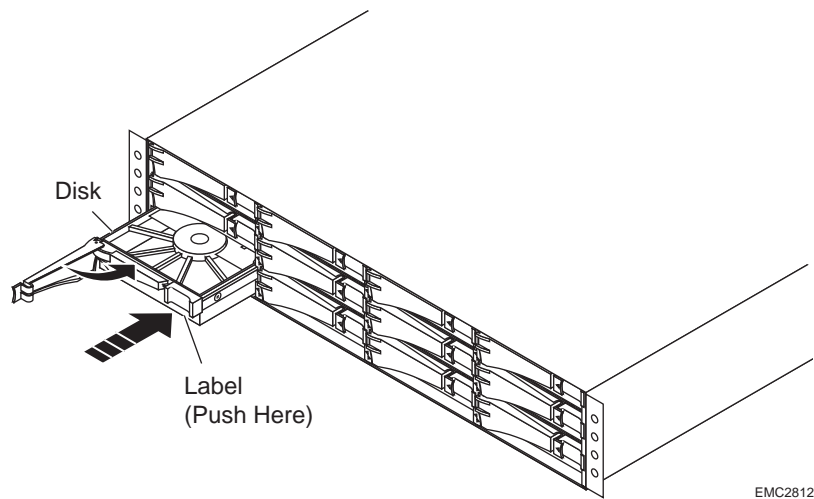

FIGURE 20. Installing a Disk Module
- b. Gently push the module completely into the slot, and ensure that the module seats completely by pushing in on the disk label as you engage the latch (Figure 20). The disk module Active light flashes to indicate the disk spin-up sequence.